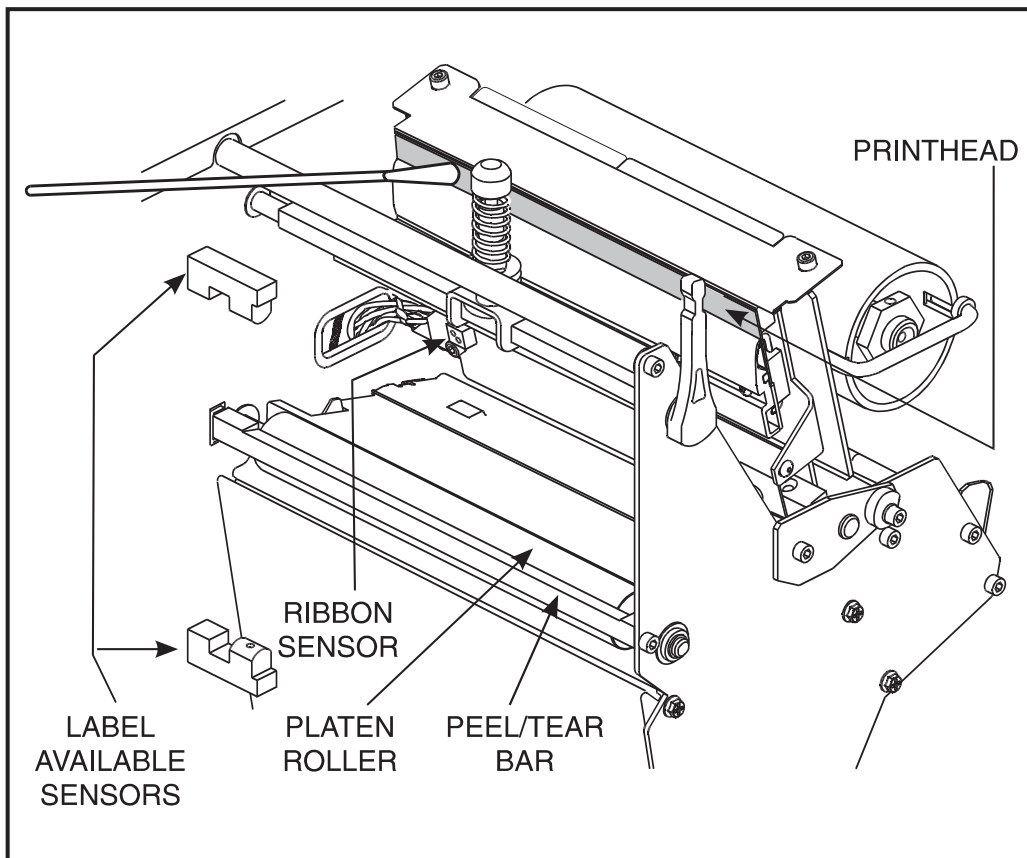

Figure 6.1 Printhead Cleaning (105Se shown)
To clean the printhead and platen roller, open the media compartment door, refer to Figure 6.1, and perform the following steps:
3. Moisten an applicator tip with Zebra Technologies Corporation-recommended solvent and wipe the print elements from end to end. (The print elements form the gray/black strip just behind the chrome strip. See Figure 6.1.) Allow a few seconds for the solvent to evaporate.
These sensors should be cleaned on a regular basis to ensure proper operation of the printer. To locate the position of these sensors, refer to Figures 6-1, 7-2, and 7-3.